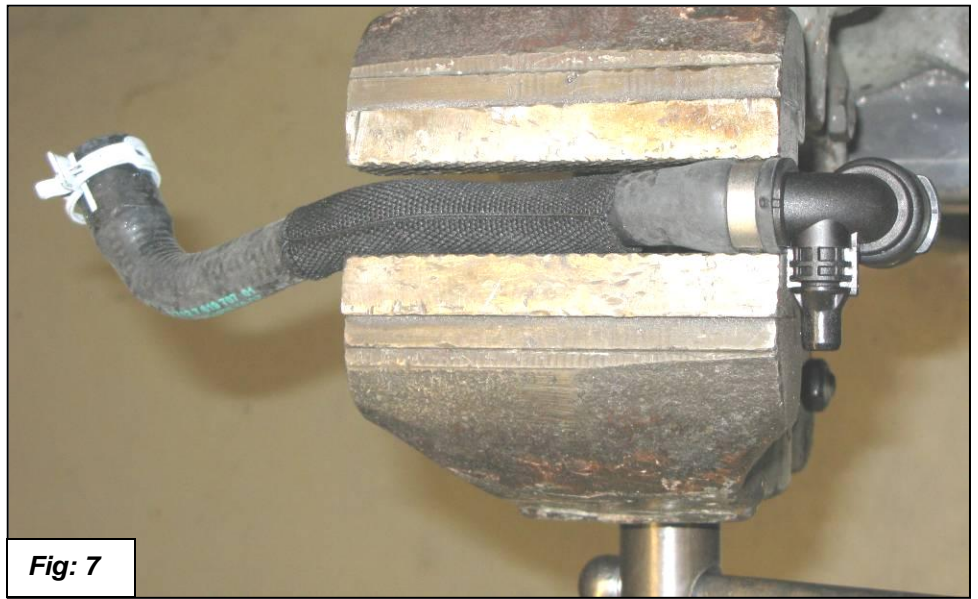
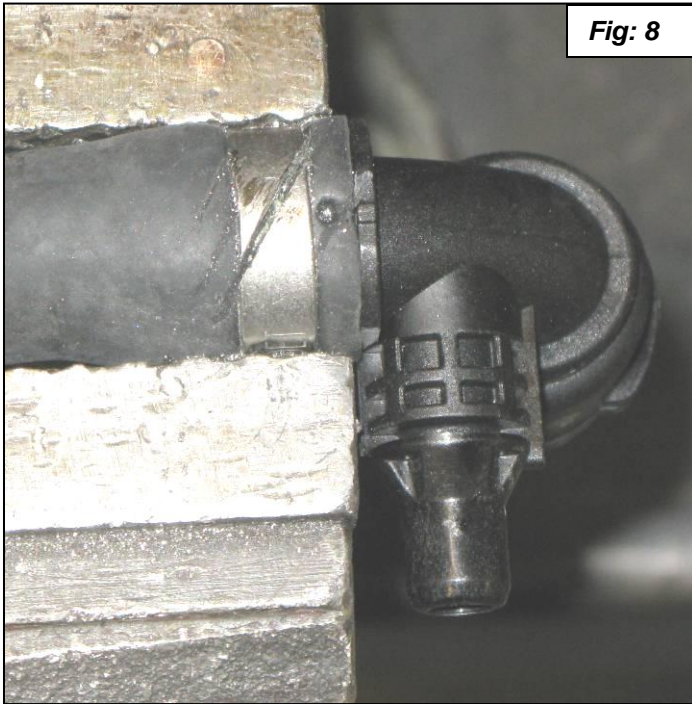
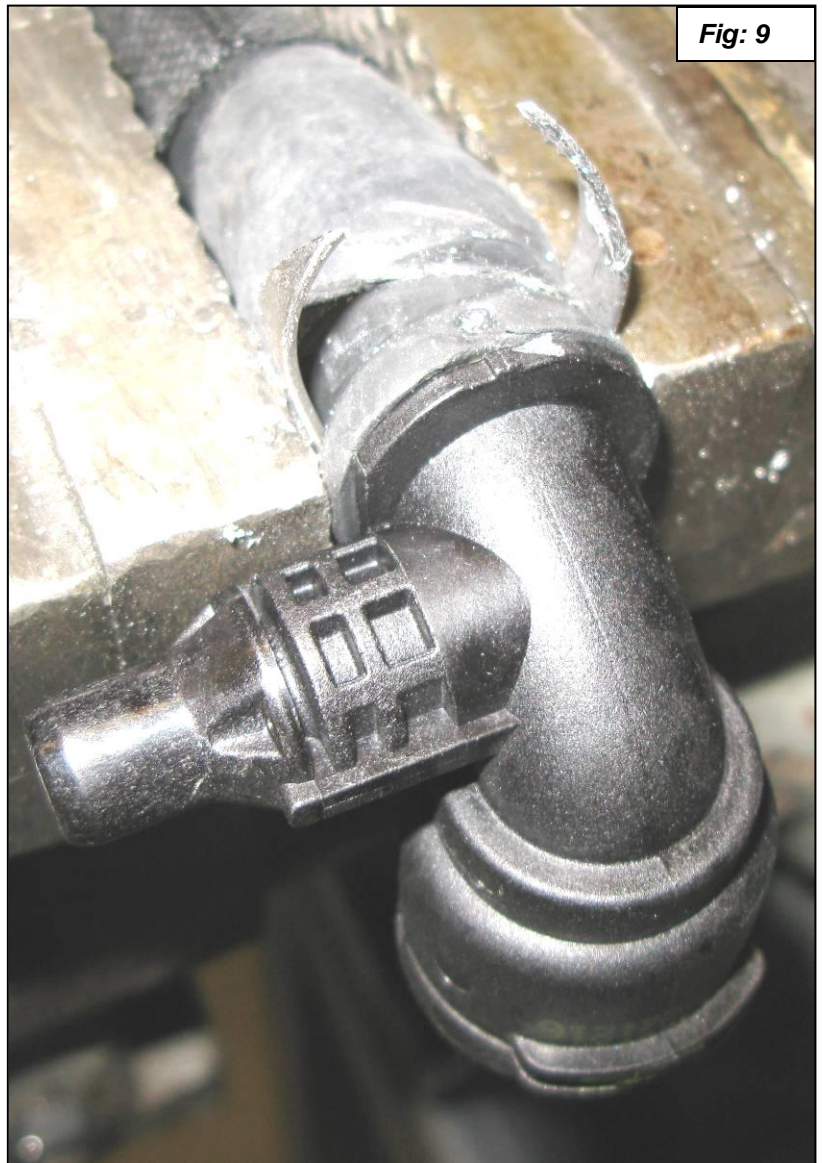
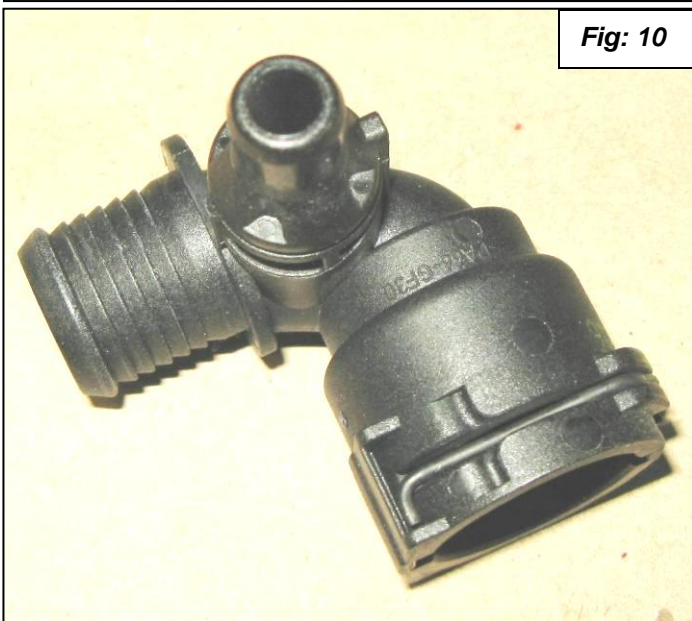

Fig: 7
Fig: 8
Fig: 9
Fig: 10
7. Remove the plastic hose fitting from the coolant hose as shown in figures 7, 8, 9 & 10. Clamp coolant hose lightly in a vise and cut the clamp diagonally with a cut off wheel or hack saw. Be careful not to cut the plastic fitting. See figure 8. Peel the hose clamp off as shown in figure 9. Remove plastic hose fitting as shown in figure 10. You will use this with the new coolant hose.